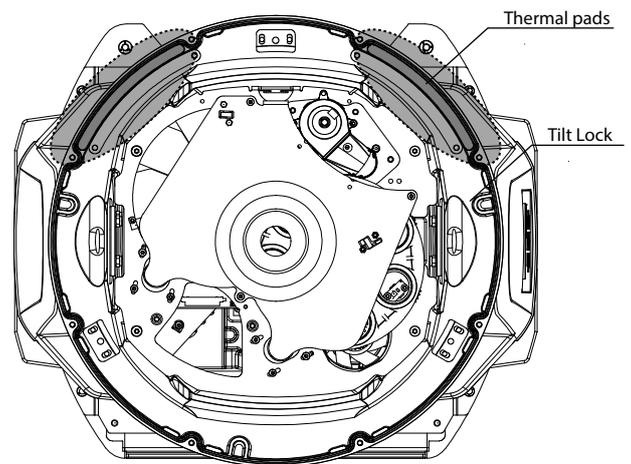

Figure 32 Thermal pads to be replaced
1. Before reinstalling the front ring, the thermal pads have to be replaced (fig. 32). Clean the thermal sockets thoroughly before installing the new ones. For more information on how to replace G-7 BeaSt gobos and to order thermal pads, please contact support@sgmlight.com